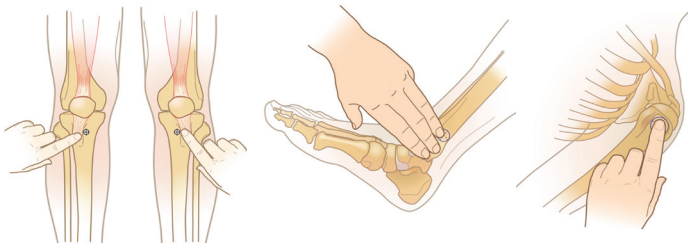

FIGURE 2
3. Locate insertion site. (Figure 2)